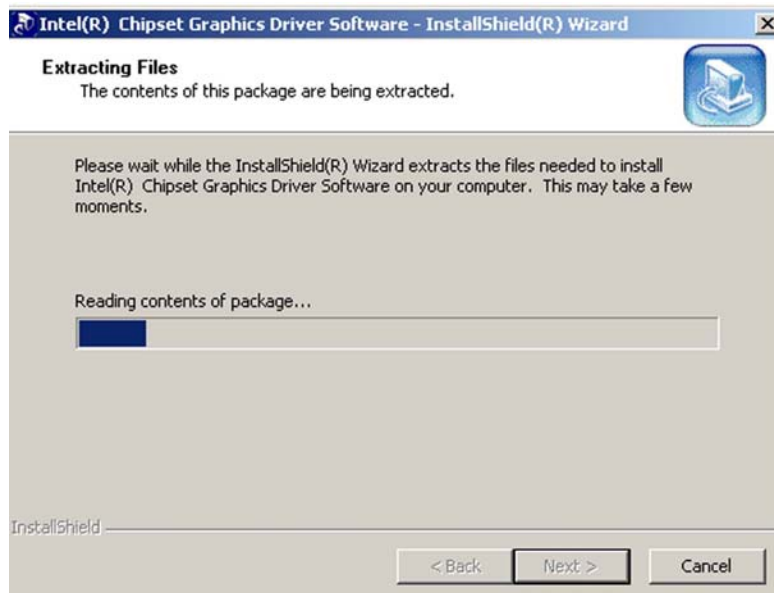

Figure 7-14: GMA Driver File Extraction
Step 9: Click **NEXT** to extract the GMA driver files. See **Figure 7-14**.